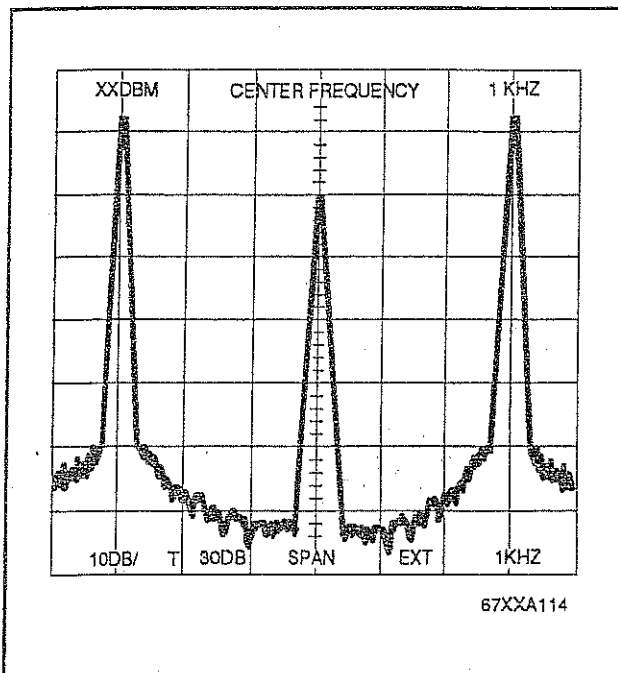

Figure 3-20. Typical Spectrum Analyzer Display of FM Flatness Response
5. On the Spectrum Analyzer, observe that the fundamental has dropped in amplitude and has 2 kHz sidebands (see Figure 3-20).